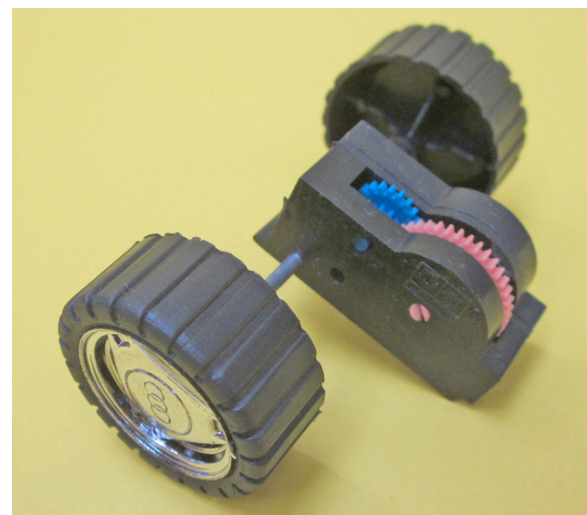
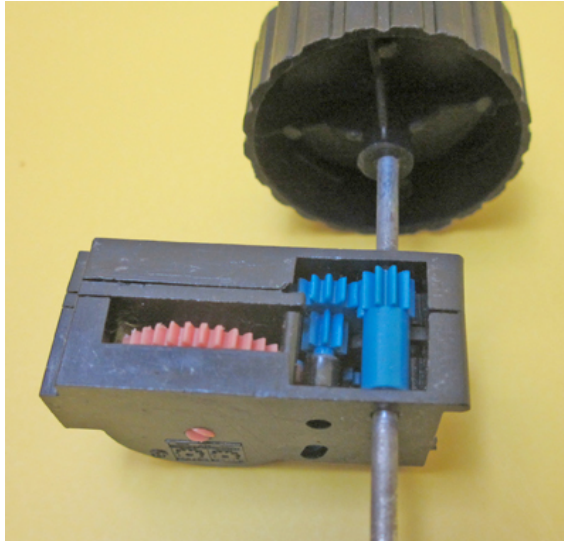

Figure 6: rear wheels/motor assembly of toy car
Figure 7: bottom of toy car motor showing exposed gears
5. Use the rear wheels/motor assembly to again observe the "back-and-forth" winding process and the unwinding, as you did with the chassis/motor assembly. Again closely observe the behavior of the exposed portions of the gears, but this time also observing the bottom of the motor unit (Figure 7) as well as the top (Figures 6 and 8) since the bottom is now exposed to view. This increased viewing access also allows you to get a better idea of the overall arrangement of the gears. Note also the ends of the shafts which protrude into or through the openings in the side walls of the motor unit, as well as the shapes of these openings.